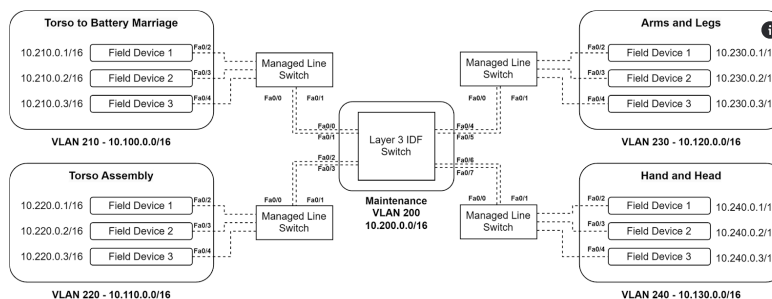
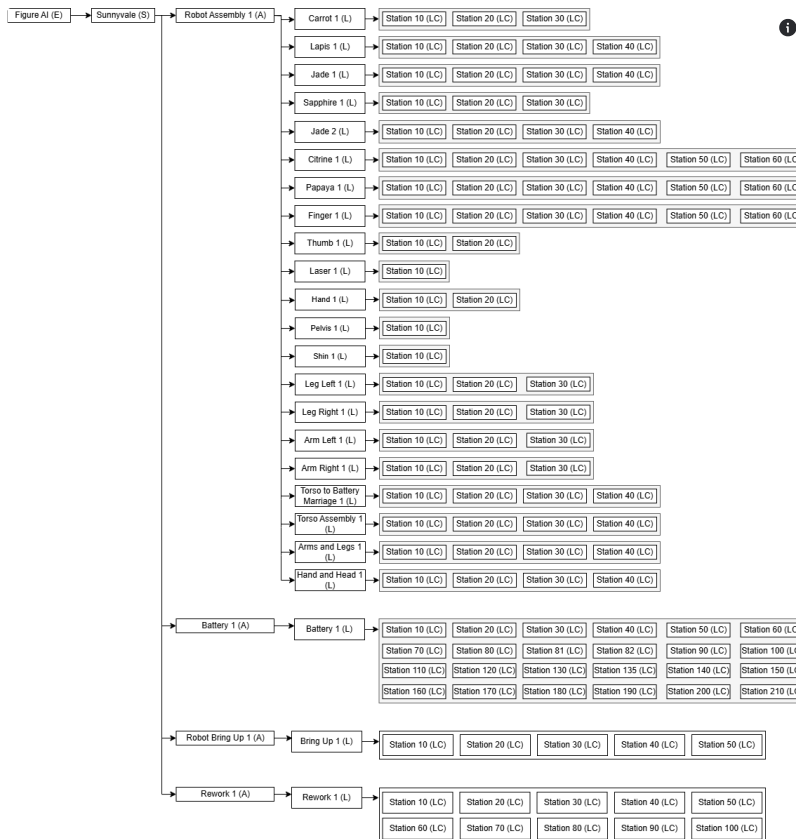

Fig.1 Sample Redundant Star Topology of Main Lines
Fig.2. ISA -95 Equipment Tree Diagram
- Action:** @Matt DeDonato configure VLAN segmentations (Fig.1) across the OT network to secure manufacturing field devices for the manufacturing line (Fig.2), including: